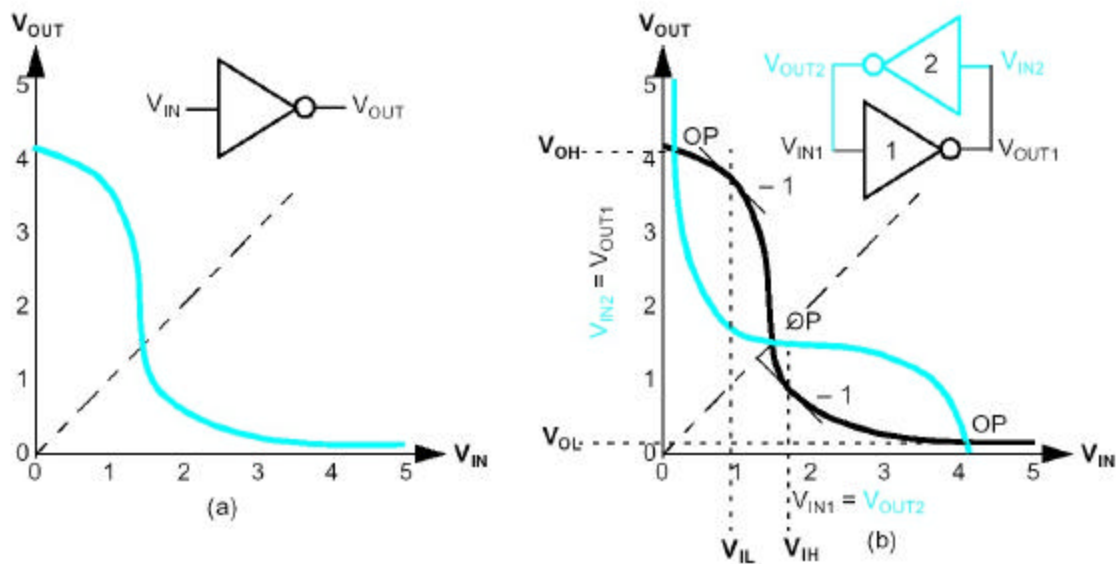
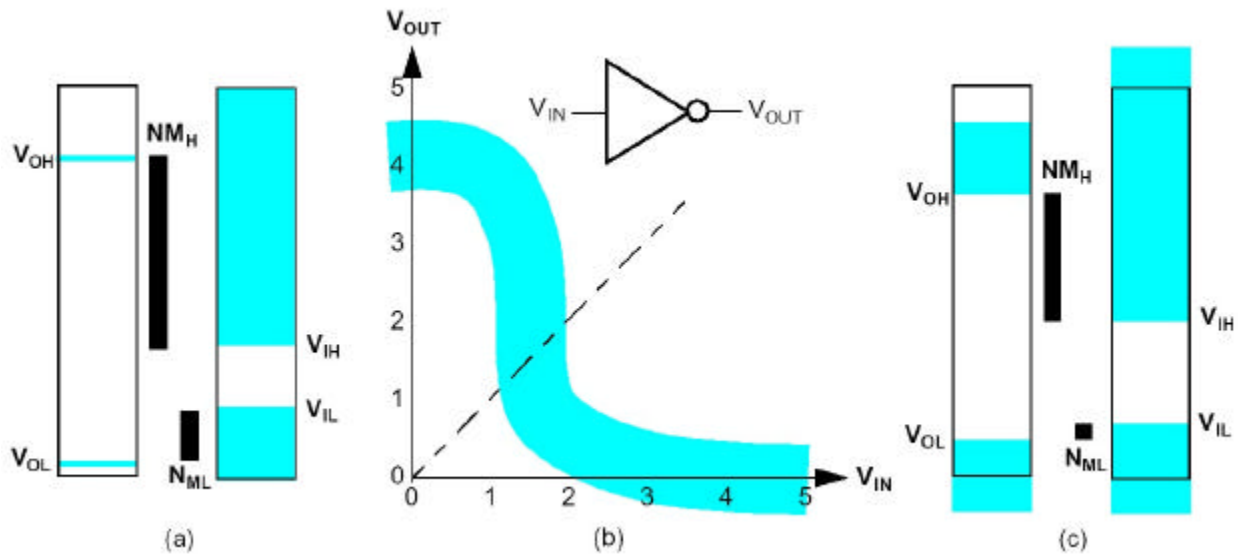

Figure 1-1 Transfer Characteristic and Operating Points
Figure 1-2 Noise Margins and Logic Family Transfer Characteristics
Figure 1-1(a) shows an ideal static transfer characteristic for an inverter with input V_{IN} , output V_{OUT} and power supply voltage, $V_{CC} = 5.0$ V. What can we learn from a static transfer characteristic that is useful in characterizing gate operation? In order to answer this question, we need to define some terminology.
This is done by connecting two inverters in a loop as shown in Figure 1-1(b). For the two inverters, we note that $V_{IN2} = V_{OUT1}$ and $V_{IN1} = V_{OUT2}$. Since both of the inverters have the same transfer characteristic, we take the transfer characteristic of inverter 2 and mirror it about the $V_{OUT} = V_{IN}$ line so that its V_{IN} axis lies coincident with the V_{OUT} axis of the transfer characteristic for inverter 1 as shown in Fig. 1-1(b); then the V_{IN} axis of gate 1 also coincides with the V_{OUT} axis of gate 2. By this mirroring operation, the relationships given in Fig. 1-1(b) are satisfied on the axes of the plot. Because of the voltage equalities, the only points where both static transfer characteristics can be satisfied on this plot is where they intersect. These intersection points are $(V_{IN1} = 0.15 \text{ V}, V_{OUT1} = 4.05 \text{ V})$, $(V_{IN1} = 1.50 \text{ V}, V_{OUT1} = 1.50 \text{ V})$, and $(V_{IN1} = 4.05 \text{ V}, V_{OUT1} = 0.15 \text{ V})$; these operating points are marked with OP. A small change in V_{IN1} from 1.5 V will cause departure from the $(V_{IN1} = 1.5 \text{ V}, V_{OUT1} = 1.5 \text{ V})$ point toward one of the other two points. Thus, this point is *unstable*, will not persist, and is of little interest. Small departures from the other two operating points, however, are reversible and with the appropriate change in V_{IN1} will result in a return to those points. These are *stable operating points* for the inverters. They define the voltage values that correspond to HIGH and LOW on inputs and outputs of this particular inverter. Since we are using *positive logic*, HIGH corresponds to 1 and LOW corresponds to 0. Thus for the given inverter, the voltage values for 0 and 1 are 0.15 V and 4.05 V, respectively. For V_{OUT} , the LOW value is *V output LOW*, denoted V_{OL} , and the HIGH value, *V output HIGH*, denoted V_{OH} .
So, for this inverter, V_{OL} is 0.15 V and V_{OH} is 4.05 V. Finally, since the LOW value on the input produces a HIGH value on the output and vice-versa, an inversion of the voltage values has occurred. For either positive or negative logic, the inverter is also often called a NOT gate since it *negates* the input value to produce the output value. Note that if you actually connected two identical gates in a loop, you would get only an operating point, not the transfer characteristics. In the lab, we will generate the equivalent of Fig. 1-1(b) for two inverter types.
In order to evaluate the noise margins, we need to define two additional voltages from the transfer characteristic. These are the two input voltages at which $dV_{OUT}/dV_{IN} = -1$. The lower of these two voltages is *V input LOW* denoted by V_{IL} , and the higher is *V input HIGH* denoted by V_{IH} . These voltages are chosen somewhat arbitrarily as the *highest* value that will act as a LOW input and the *lowest* value that will act as a HIGH input. Intuitively, this makes some sense in that if any voltage between these two voltages is applied to the input, any noise superimposed on that voltage produces a larger noise voltage on the output, i.e., the noise voltage is amplified. This amplification of noise is interpreted as a serious disturbance of the gate output. For the inverter in Fig. 1-1, $V_{IL} = 0.90$ V and $V_{IH} = 1.70$ V.
With these two values plus V_{OH} and V_{OL} , we can define the *static voltage noise margins* for a logic gate. The *LOW noise margin*, is $NM_L = V_{IL} - V_{OL}$, and the *HIGH noise margin* is $NM_H = V_{OH} - V_{IH}$. *Static* again means that dynamic effects are ignored and implies that the margins may not apply for high frequency noise. For the inverter transfer characteristic in Fig. 1-1, the noise margins are $NM_L = 0.90 - 0.15 = 0.75$ V and $NM_H = 4.05 - 1.70 = 2.35$ V. The intuitive implication of these values is that 1) an input noise voltage of 0.75 V added to input V_{OL} gives an output that would still be interpreted as a HIGH, and 2) an input noise voltage of 2.35 V subtracted from input value V_{OH} gives an output that would still be interpreted as a LOW. We will calculate the noise margins for two inverter types in the lab and compare them.
Now we can consider fully the question: “What is a logic 0 and what is a logic 1 (for positive logic)?” For the inverter just analyzed, a 0 on an output has value 0.15 V and a 1 on an output has a value of 4.05 V. However, on the input, any voltage between GND and 0.90 V is a logic 0 and any voltage between 1.70 V and VCC is a logic 1. This is shown pictorially in Fig. 1-2(a). So we have defined the physical meaning of 0 and 1 in terms of voltages values and ranges.
In general, these physical values are specified for an entire family of gates, for many different production lots, for different loading on the outputs, for variation in the power supply values, and for a broad range of operating temperatures. The results are a large number of transfer characteristics which collectively might appear as in Fig. 1-2(b). From this collection of curves, we find the range of values which appears on the outputs and the range of values that can act as valid inputs by using the same techniques as employed for the individual characteristic in Fig. 1-1 and take the worst case values for each voltage. The end result, as illustrated in Fig. 1-2(c), is the definition of logic 0 and logic 1 for the entire family of
- 2) Push **Main/Delayed** and set **Horizontal Mode** to **XY**. The transfer characteristic should appear. You will note that it has much sharper transitions than the example drawn in Figure 1-1. (In fact, the manufacturer has gone to great lengths to ensure this!) **Special Note:** High frequency noise feedback (from the rapidly changing output signal on the inverter back to the input signal) may badly distort the VTC. If it does, take two corrective measures before making measurements: 1) Remove the extension leads on the probes and carefully connect the grabbers directly to the pins, and 2) Successively select channels A1 and A2 and turn on BW Lim, the bandwidth limit.